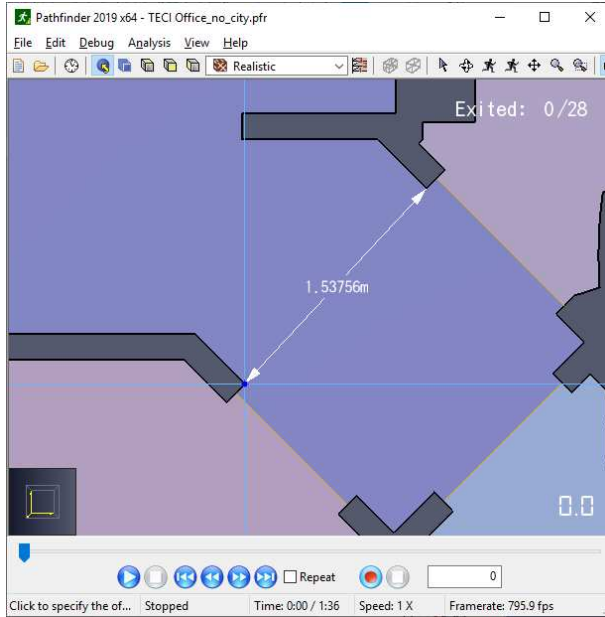

Figure 43. Unmodified dimension
5. If the dimension does not need further adjustments (Figure 43), either press Enter on the keyboard or click the second point again, and the dimension will be added. Skip the remaining steps.